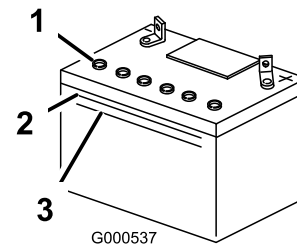

Figure 42
1. Look at the side of the battery. The electrolyte must be up to the **upper** line (Figure 42). Do not allow the electrolyte to fall below the Lower line (Figure 42).
3. Remove the vent caps from the battery (Figure 42).
4. Slowly pour distilled water into each battery cell until the electrolyte level is up to the Upper line (Figure 42) on the battery case.
5. Wait five to ten minutes after filling the battery cells. Add distilled water, if necessary, until the electrolyte level is up to the Upper line (Figure 42) on the battery case.